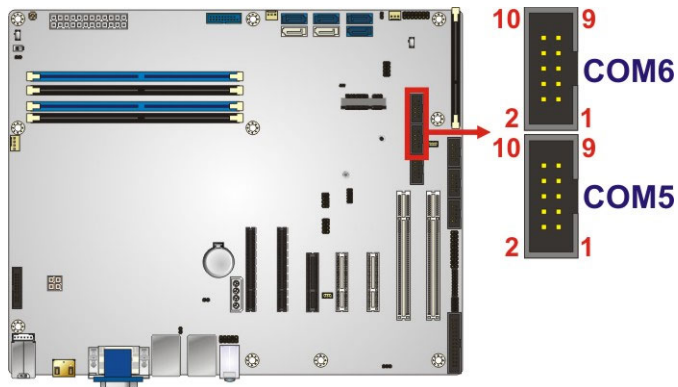

Figure 3-27: RS-232/422/485 Connector Location
- CN Location:** See **Figure 3-27**